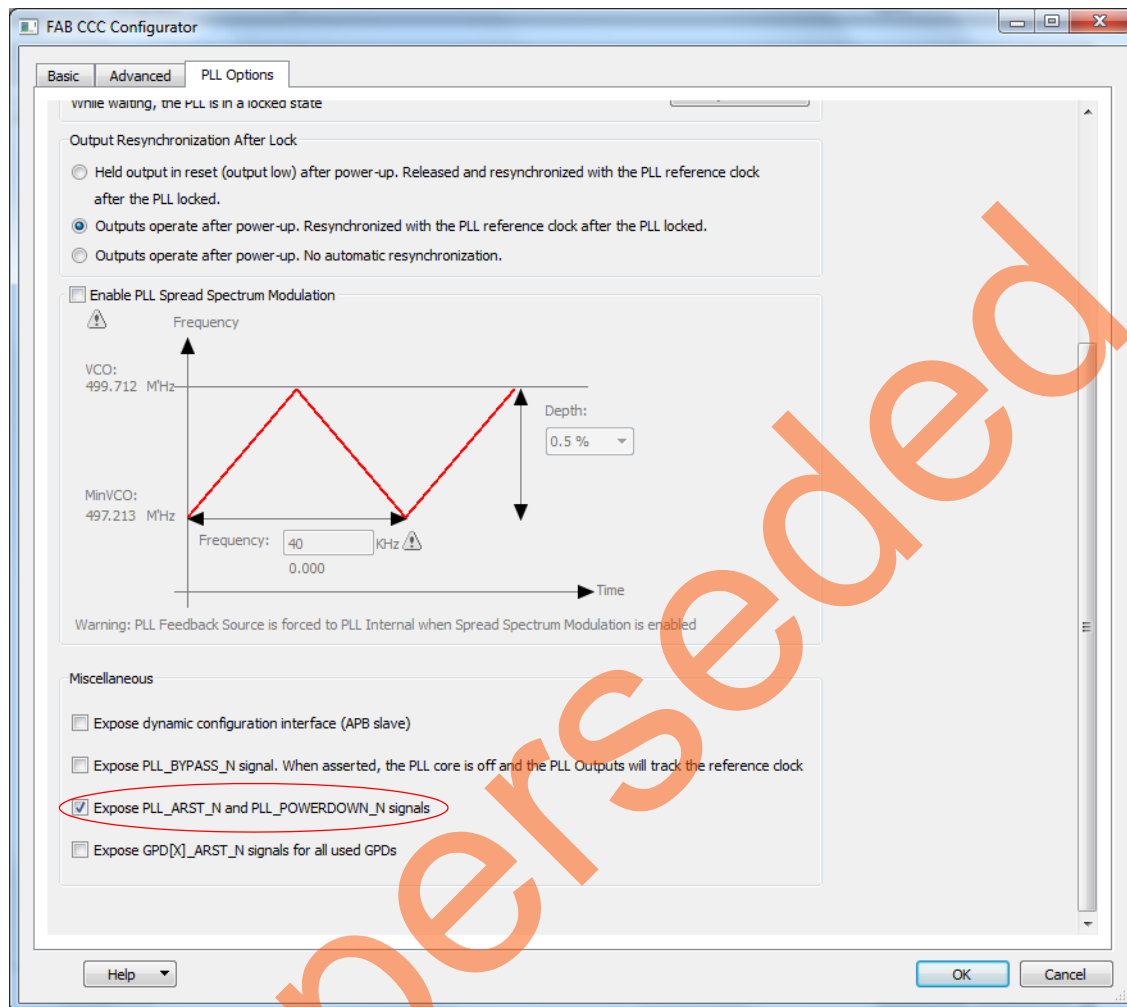

Figure 9 • Configuring PLL Power-down Signal
12. Click on **PLL Options** tab in the **FAB CCC Configurator** window and check **Expose PLL_ARST_N** and **PLL_POWERDOWN_N** signals as shown in Figure 9.